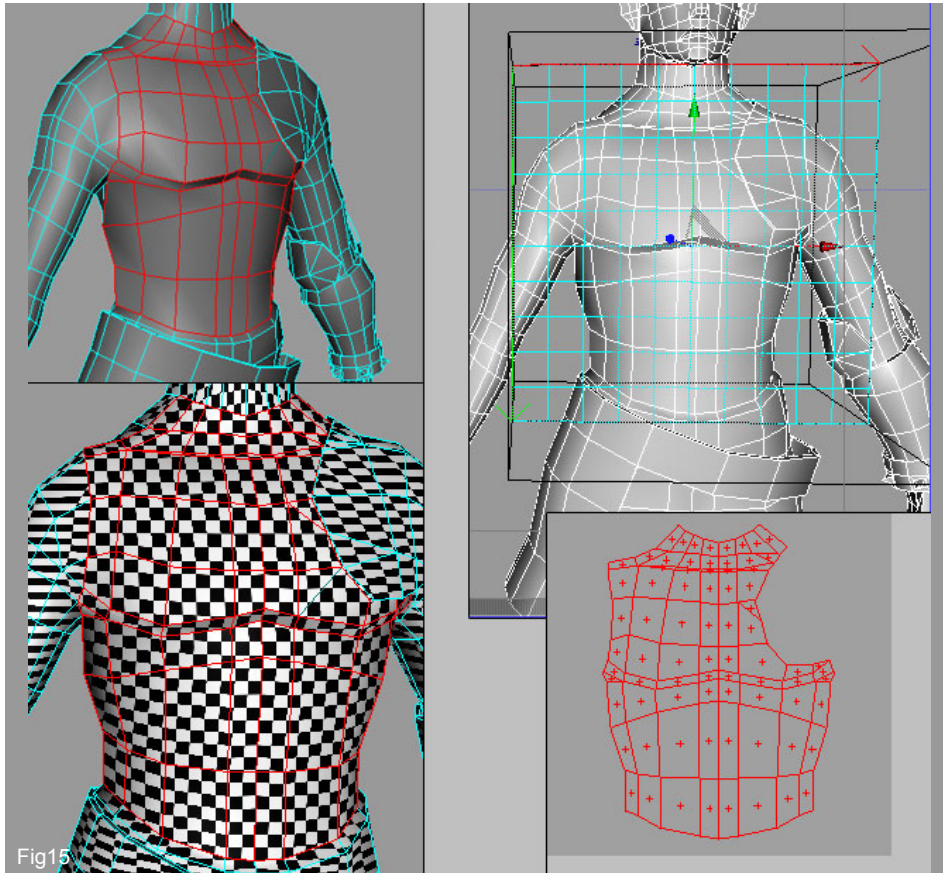

Fig15
15. Now it is time to move onto the torso. First hide the poly's tat make up the belt around the torso then select the front half of the body from the neck line down to the trousers and half way around the side as seen in Fig 15. Apply a Flat map by using Interactive Mapping.